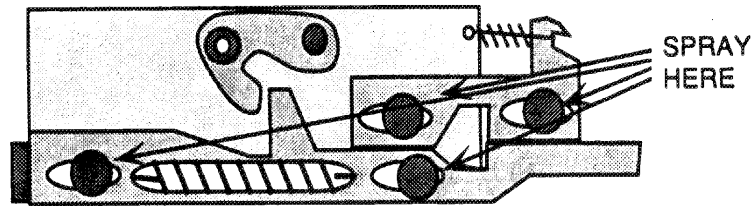

Figure 21 Spray away the old grease with WD-40.
10. Set up a disposable aluminum tray as shown in Figure 21. Hold the eject mechanism over the tray and spray the remaining grease away with WD-40.